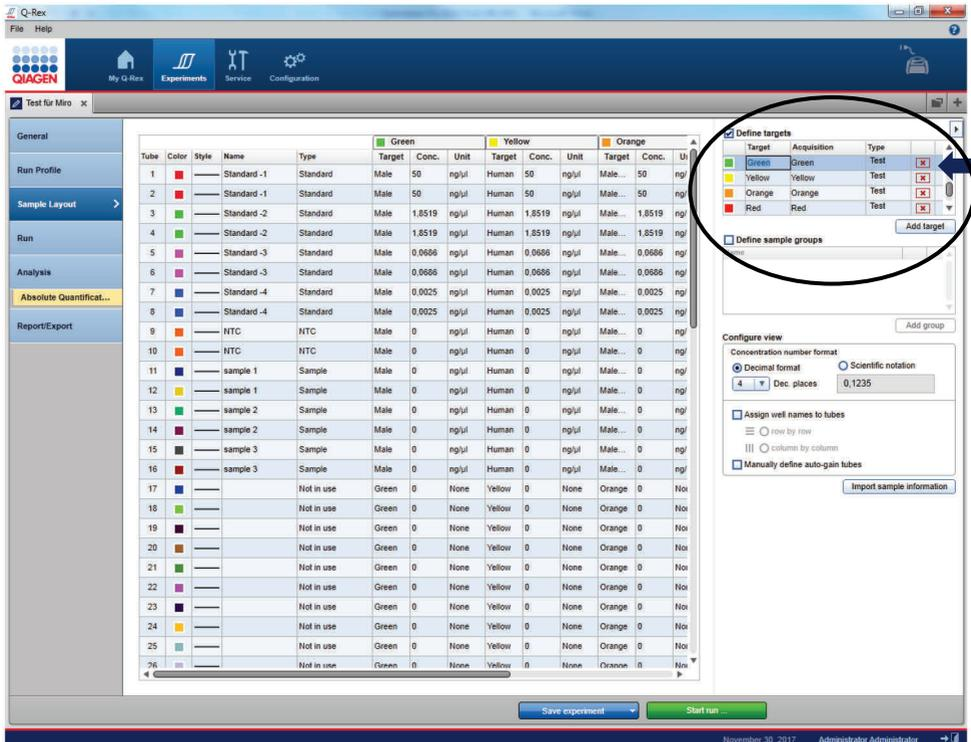

Figure 27. Remove additional targets for “Not in use” tubes.
39. Scroll down in the “Define targets” windows and remove the additional targets (green, yellow, orange, red and crimson) assigned for “Not in use” tubes by clicking on the red delete field (Figure 27). Take care not to remove the imported targets Male, Human, Male Degradation, Human Degradation and IC.